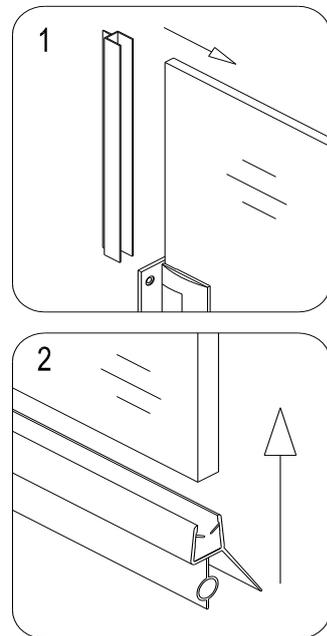

fig. 4
4. Measure the distance between the top edge of the glass door and upper edge of the top hinge and cut the piece off the **Side strip (06)** with a knife in the length according to your measurement. Repeat it to prepare the short strip for the lower section of the glass door. Then measure the distance between bottom edge of the top hinge and the upper edge of the bottom hinge and cut the rest of the strip to size. Remove the timber plate, open the door to its full section and push all the strip lengths onto the vertical edge of glass door. Push the **Bottom anti-water strip (07)** on the bottom edge of the glass door. See fig. 4 for details.
5. Mount the **Handle (02)**.
**Prior to the next step, please be sure the part of the wall for installation of the *L-shaped strip (08)* is clean, dry and free from soap, oil and any construction debris.**